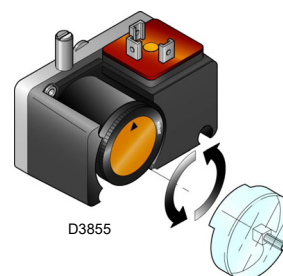

Fig. 30
- Adjust the minimum gas pressure switch (Fig. 30 on page 27) to the start of the scale.
Adjust the minimum gas pressure switch after performing all the other burner adjustments with the pressure switch set to the start of the scale (Fig. 30).